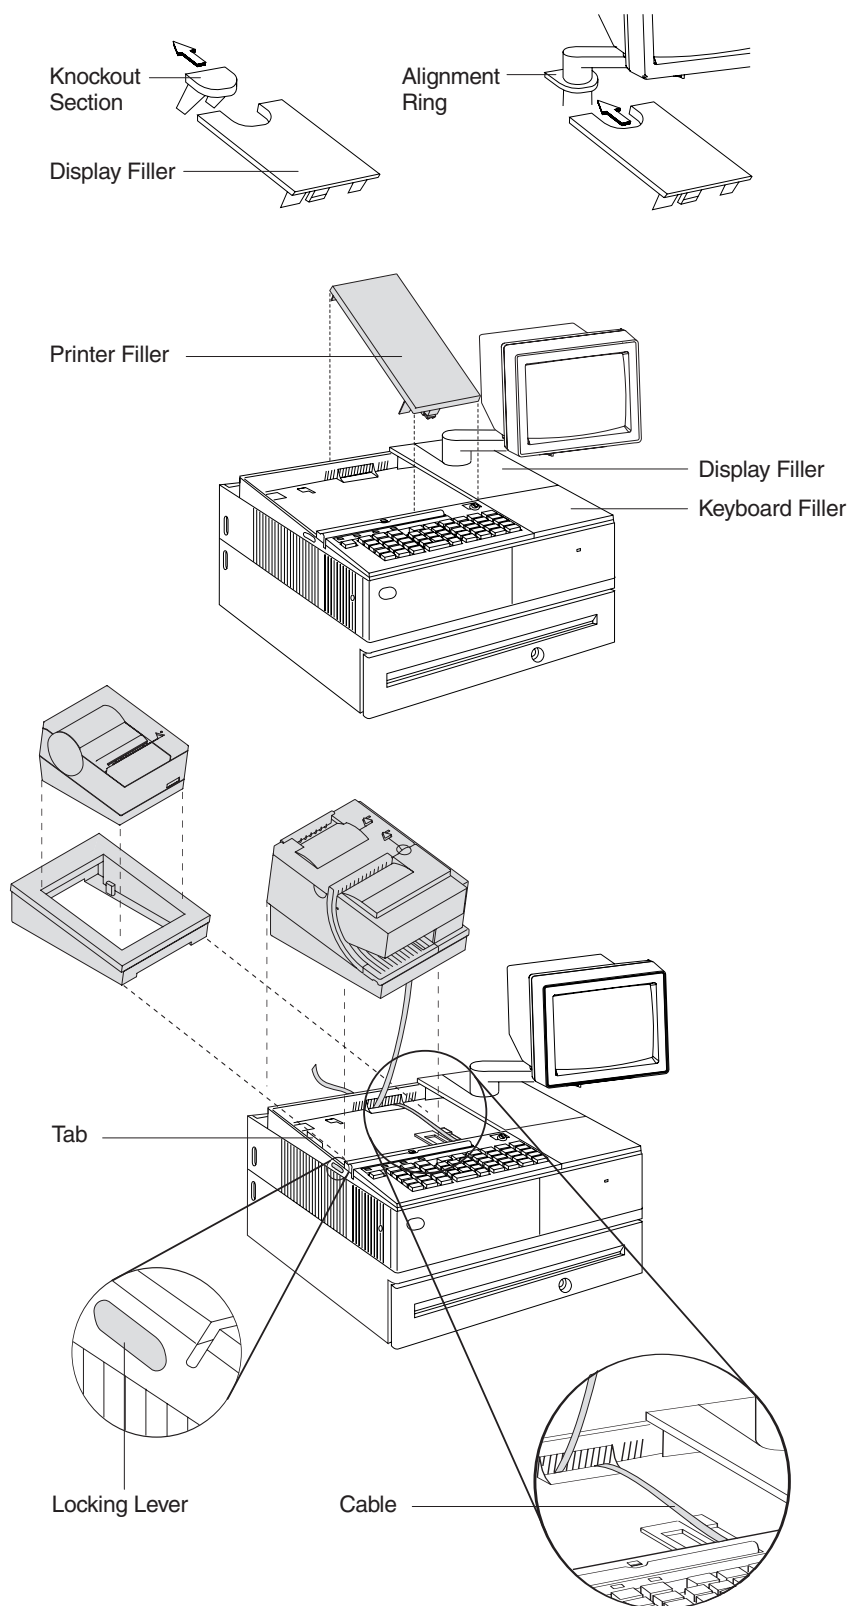

Figure 13. Installing the Fillers for RS-232/RS-485 Systems
- c. Route the keyboard cable to the side of the tab as shown in Figure 13 on page 26.
- c. Align the display filler with the alignment ring and slide the filler onto the ring. Press the display filler into place. See Figure 13 on page 26.
3. If you do not have a video display, place the display filler on the system unit. **Do not remove** the knockout section. See Figure 13 on page 26.
4. If you have a short keyboard, place the keyboard filler beside the keyboard. See Figure 13 on page 26.
5. Place the printer filler beside the display filler. **Make sure you route the printer cable to the side, as shown in Figure 13 on page 26.**